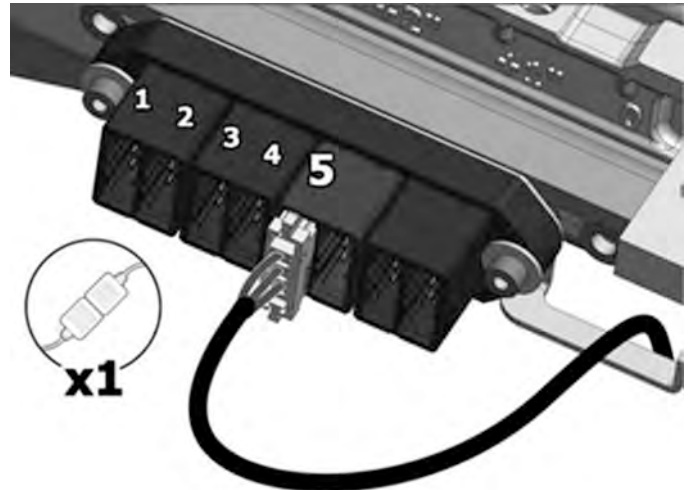

Figure 99. The Tilt Motor Cable is connected to the fifth position of the connector block.
7. Connect the Tilt motor cabling to the contact block at the seat frame. See fig. 99. Mount the cable to its cable brackets on the right hand side of the seat. See *AP Elevator Tilt Motor Cabling*, Page 77.